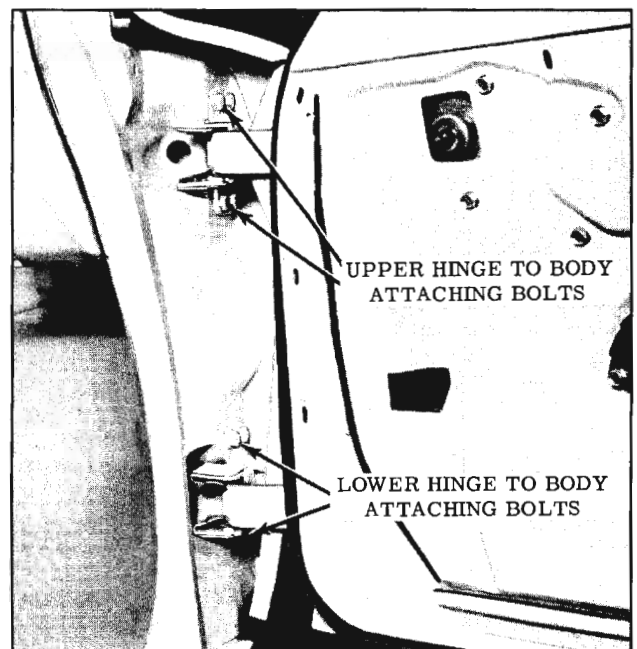

Fig. 16-242 Front Door Hinge Attachment to Cowl
6. With aid of a helper, to properly support door, remove bolts securing upper and lower hinges to body and remove door assembly with attached hinges from body. (Fig. 16-242)
3. Loosen hinge attaching bolts and shift door to desired position; then tighten hinge attaching bolts. (Fig. 16-242)